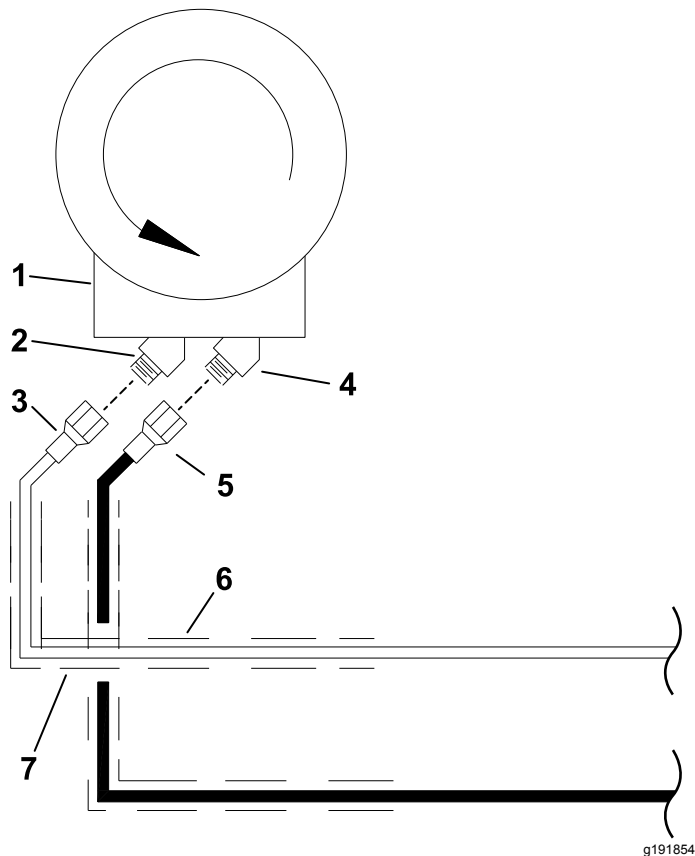

Figure 20
1. Install the hose cover 122 cm (48 inches) over the hydraulic hose included with the core harvester (Figure 20).
2. Install the hose cover 224 cm (88 inches) over the hydraulic hose B—330 cm (130 inches, 8 MP to 6 MP) as shown in Figure 20.
3. Connect the hydraulic hose included with the core harvester to port A on the elevator motor (Figure 20).
4. Connect the hydraulic hose B—330 cm (130 inches, 8 MP to 6 MP) from the port B quick coupler on the workman to port B on the elevator motor (Figure 20).